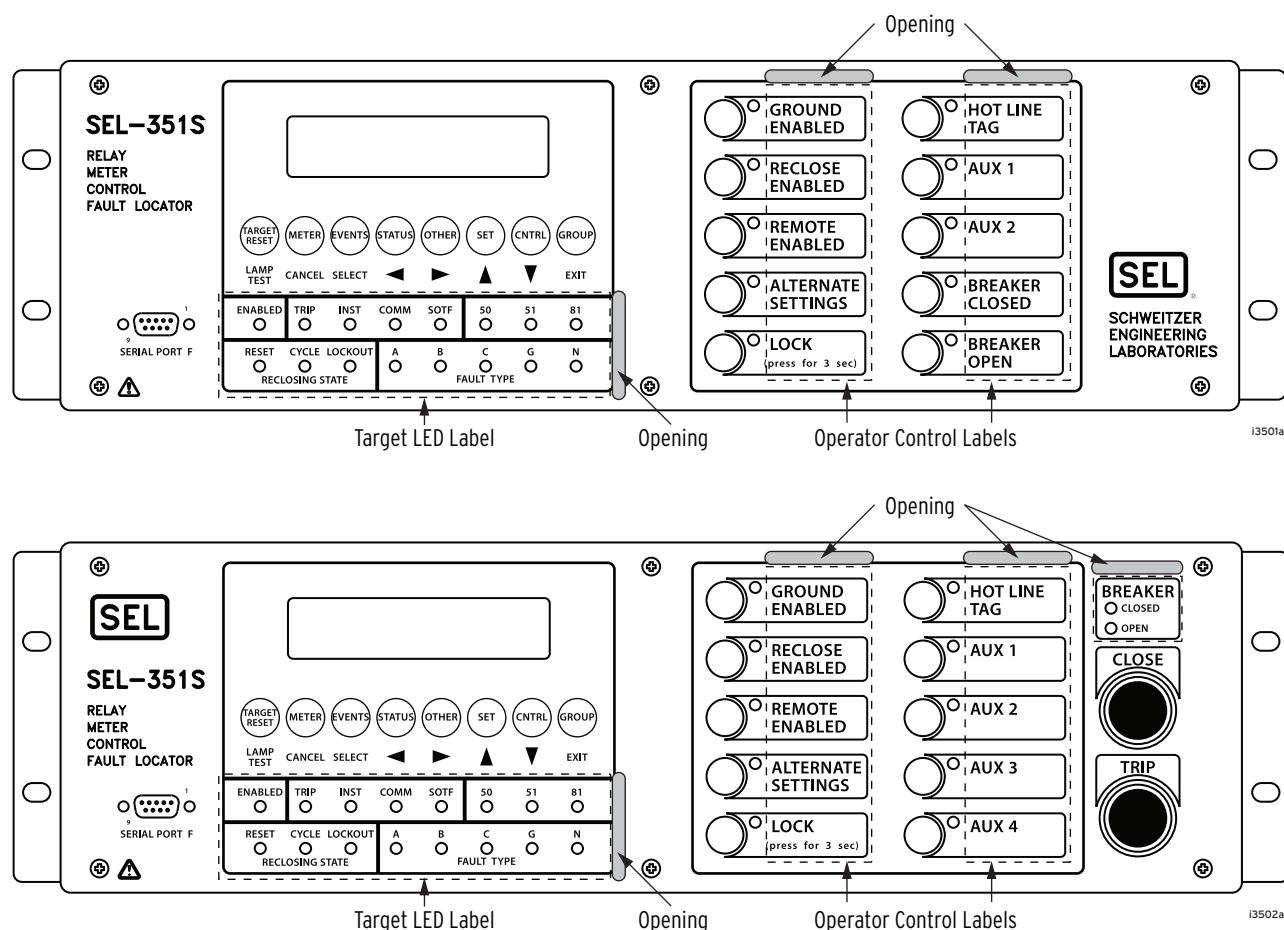
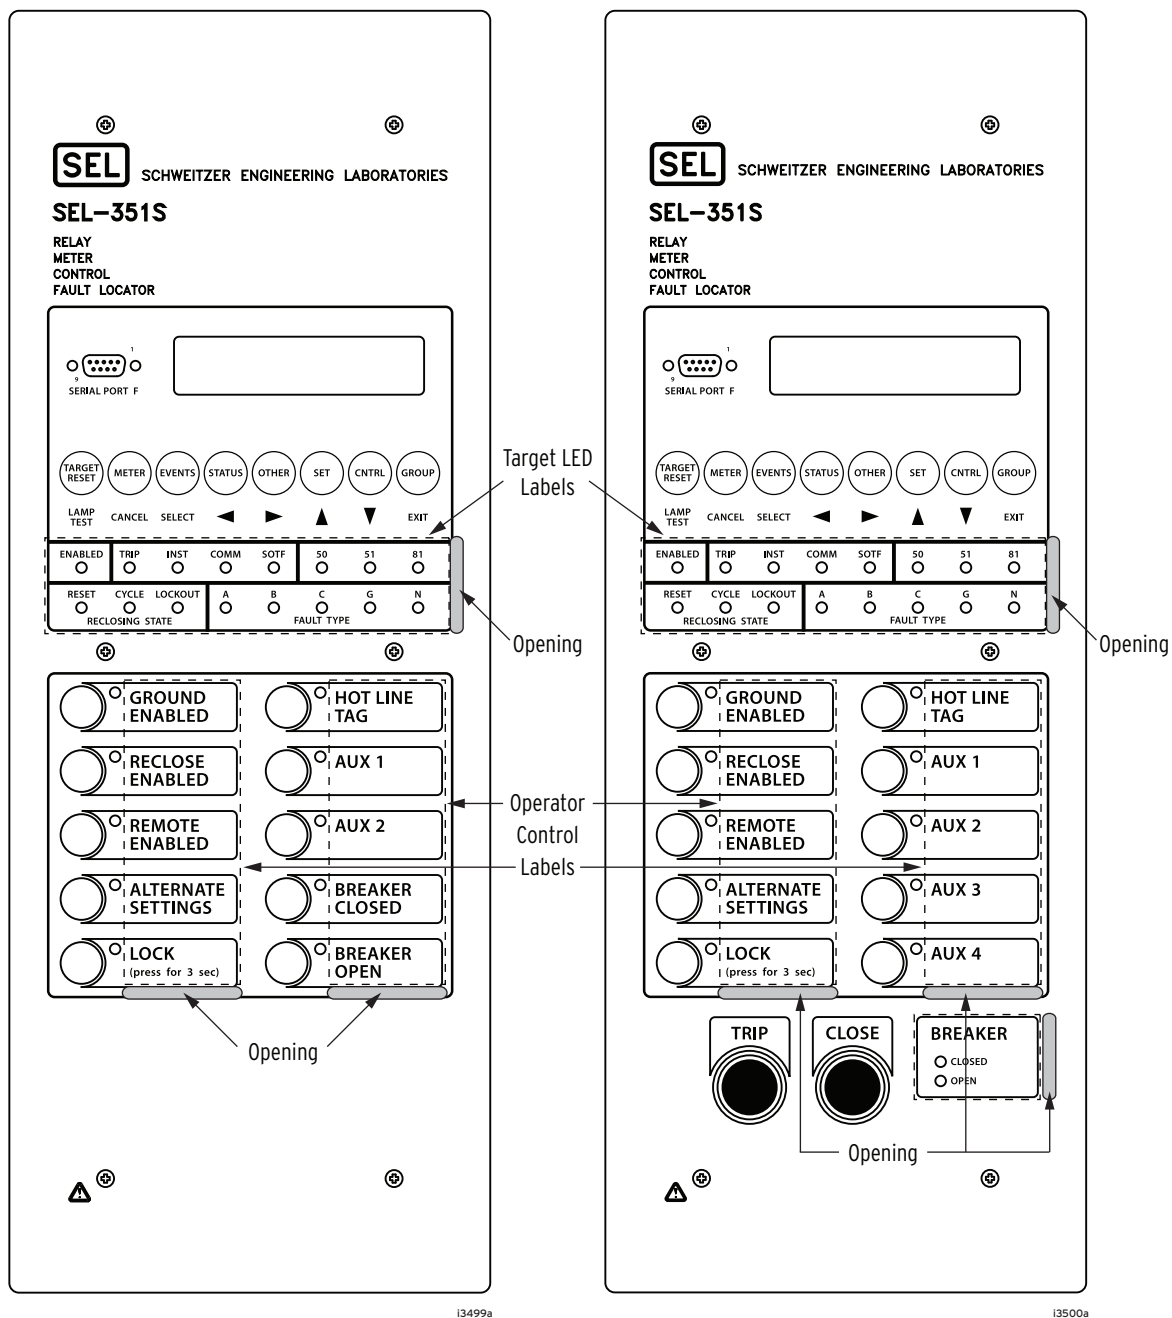

Figure 1 Typical SEL-351S Configurable Label Areas (Horizontal)
Figure 2 Typical SEL-351S Configurable Label Areas (Vertical)
The SEL-351S Configurable Labels Kit provides the materials and information needed to customize the target LED and operator control pushbutton areas of the front panel. *Figure 1* and *Figure 2* show the pocket areas and openings.
- Step 1. Slide the tip of the tool under the label at the pocket opening (see *Figure 1* for example opening locations).